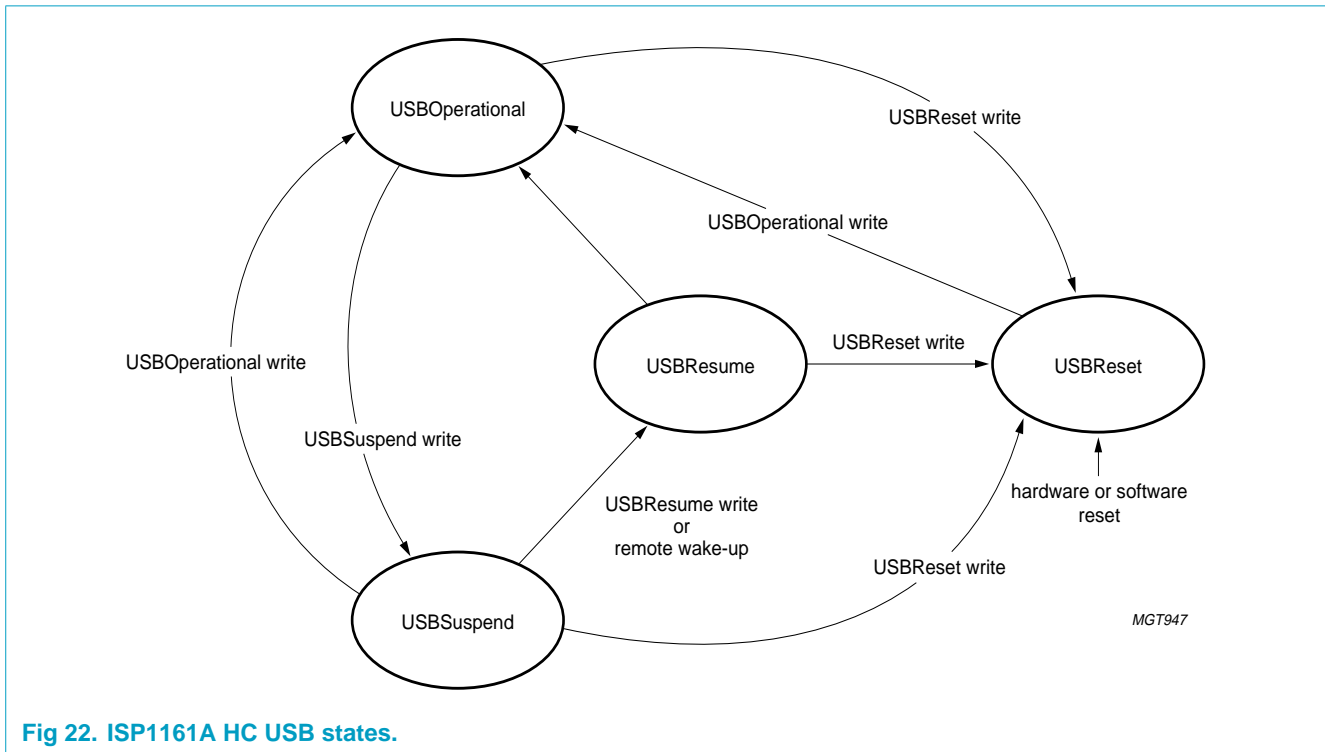

Fig 22. ISP1161A HC USB states.
The Host Controller Driver (HCD) can perform only the USB state transitions shown in Figure 22.
**Remark:** The Software Reset in Figure 22 is not caused by the HcSoftwareReset command. It is caused by the HostControllerReset field of the HcCommandStatus Register (02H - read, 82H - write).